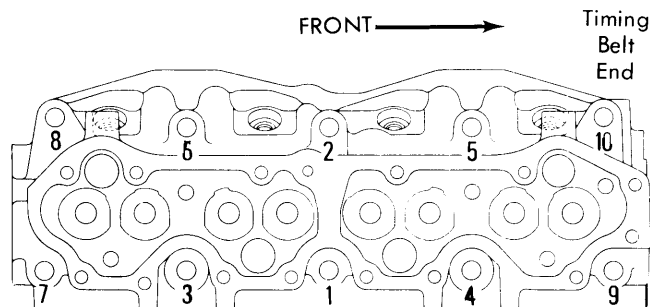

Fig. 1 Cylinder Head Tightening Sequence
5) Thoroughly clean all gasket surfaces on cylinder head and block. Use new gasket with word "ALTO" facing up when installing head. Tighten bolts and nuts in sequence shown in Fig. 1 in two steps: first to about 29 ft.lbs. (4.0 mkg), and then to final torque of 69 ft.lbs. (9.5 mkg). Complete assembly in reverse order of removal. See *Timing Belt Replacement*.